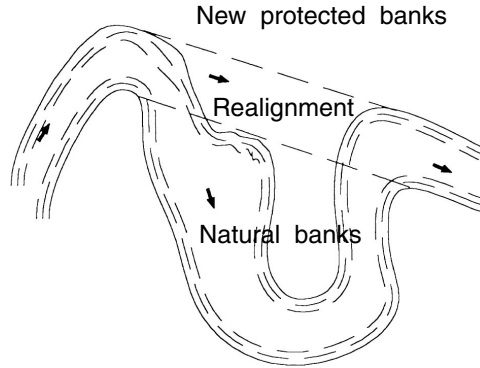

FIGURE R-5 River training.
- River training** The realignment of a stream to a straighter and more regular course by eliminating the bends and protecting the new banks. *See* Figure R-5.